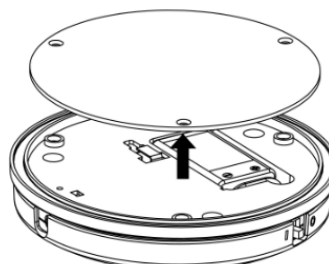

Fig 5-2
2. Open the round metal plate. The battery should now be visible (Fig.5-2).